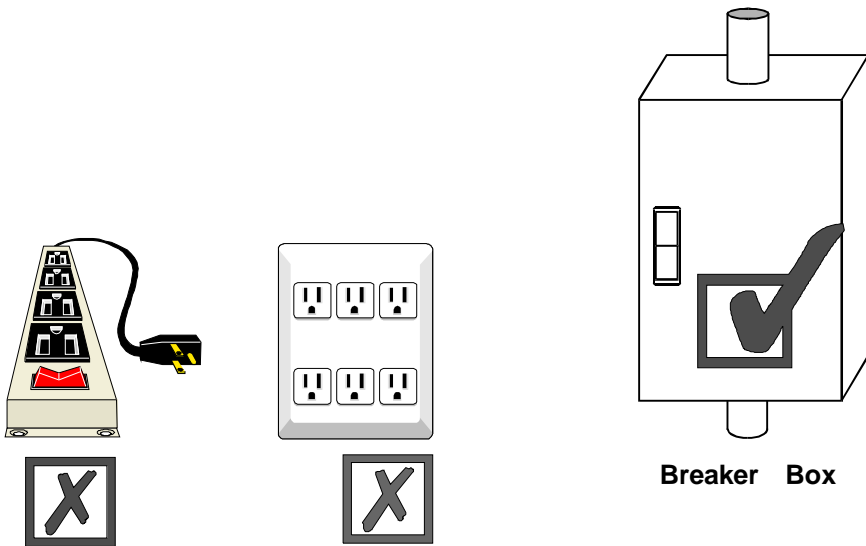

Figure 11
2. Please connect the 220V power of nearest switch box to Inverter wind/solar (5in1) by pass block. (Fig.11)